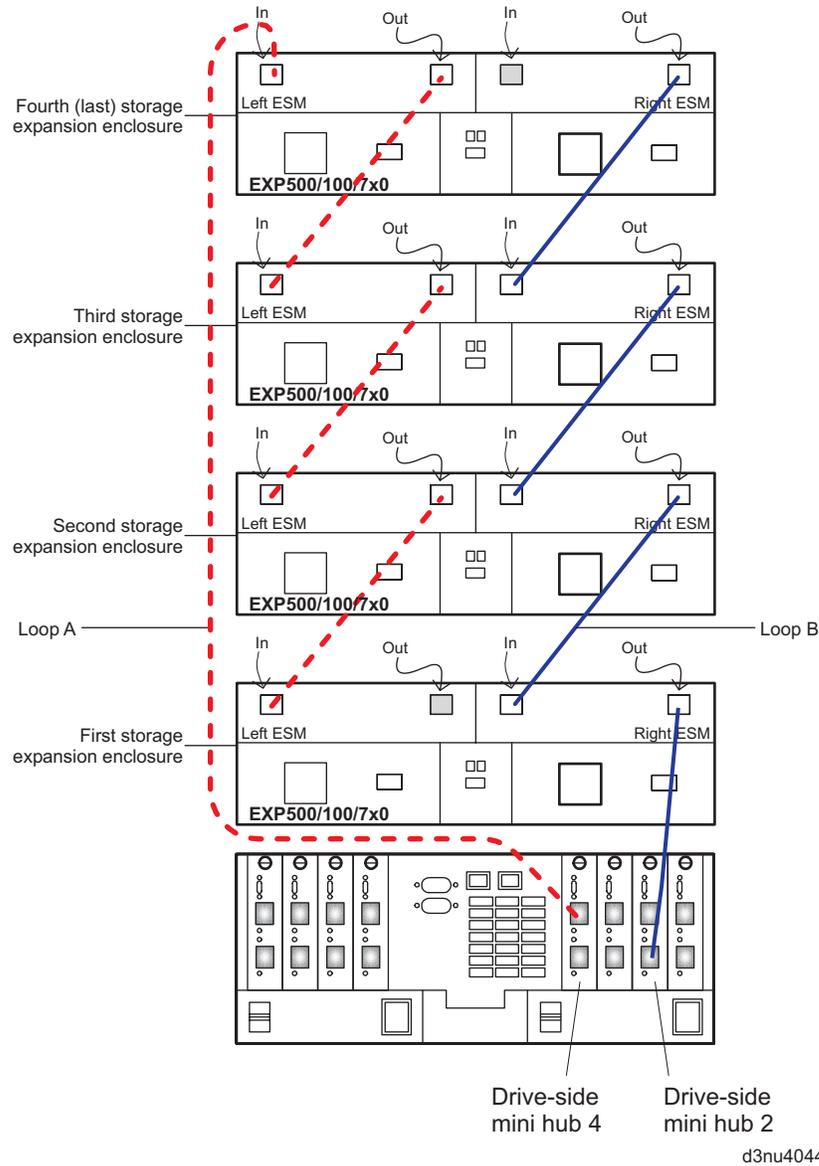

Figure 65. Connecting redundant EXP500, EXP100, EXP700, or EXP710 drive loops to the DS4500
2. Connect drive loop B to the DS4500 Storage Subsystem, as shown in Figure 65 on page 87.